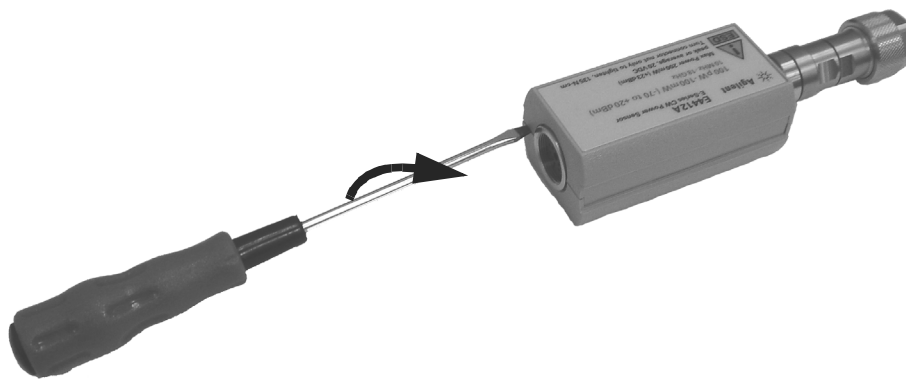

Figure 5 Removing Power Sensor Shell
- 1 At the rear of the power sensor, insert the blade of a screwdriver between the plastic shells (Figure 5). To prevent damage to the plastic shells use a screwdriver blade as wide as the slot between the two shells.
- 1 Replace the magnetic shields and the plastic shells as shown in Figure 5. Snap the plastic shells together.